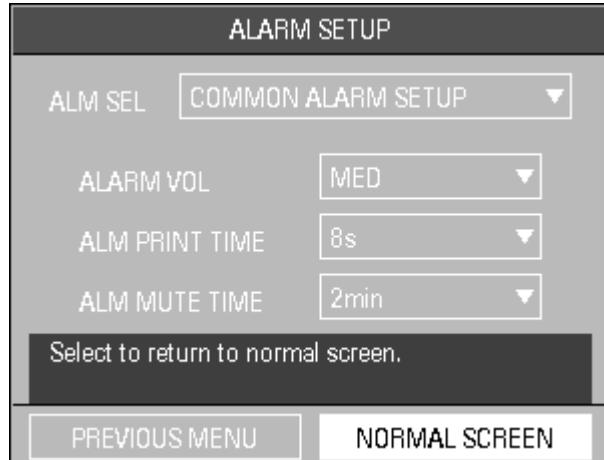

FIGURE 2-47 Common Alarm Setup Menu
1. Using the Navigator™ Knob, select **ALARM SETUP** from the **MONITOR SETUP** menu. The default **ALARM SETUP** menu is the **COMMON ALARM SETUP** as shown in FIGURE 2-47.